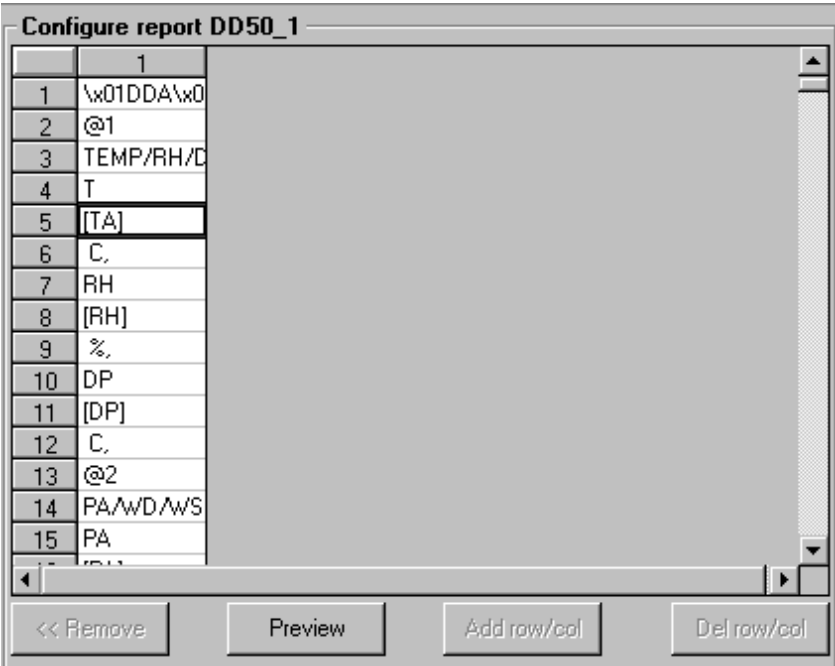

Figure 55 Preformatted Report Template with Tags
- See Figure 55 on page 115 for the contents that appear in the **Configure report** frame. A preformatted report initially has no actual variables linked to it. Cells to which the variables should be placed are indicated by tags, that is, variable abbreviations enclosed in square brackets, for example, [TA] and [RH]. In the information pane, the report information lists the required variables for the tagged cells. You can retrieve the list by clicking the report in the **Existing reports** list or by clicking the original template in the **Available templates** list.